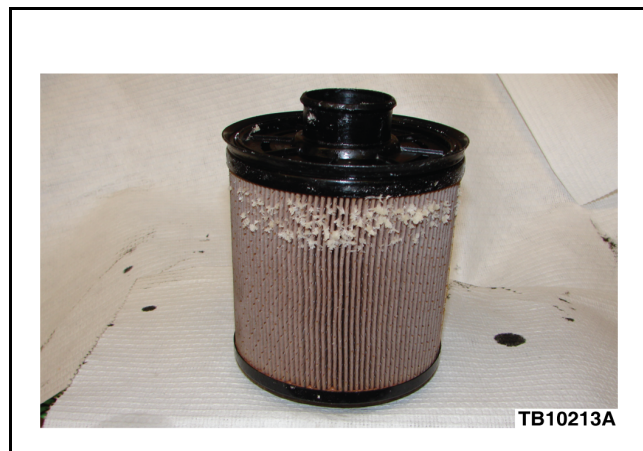

Figure 1 - Article 11-10-10
2. Allow the filter and filter bowl to dry for two hours. Did the filter and or filter bowl turn white? (Figures 1 and 2)